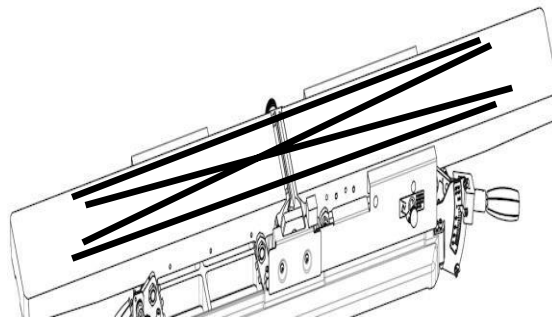

Figure 29: Checking tables for alignment
**STEP 4:** Place a straight edge across the tables in positions as shown in **FIG. 29**. In each position, the straight edge, should rest flat and fit flush with both infeed and outfeed tables (not on an insert knife). If it does not, follow the steps in Outfeed Table and Infeed Table adjustments.